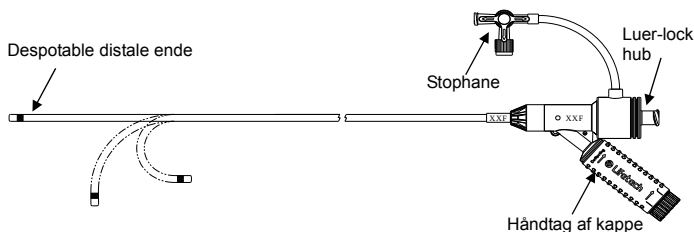
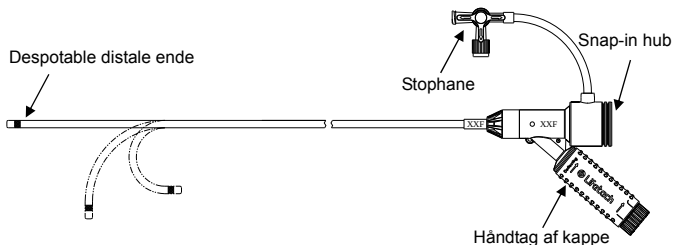

Fig.1 Steerable introducer(800 series)
Fig.2 Steerable introducer(550/700/900 series)
- 1) Deflectable kappe (Fig. 1 & Fig. 2)